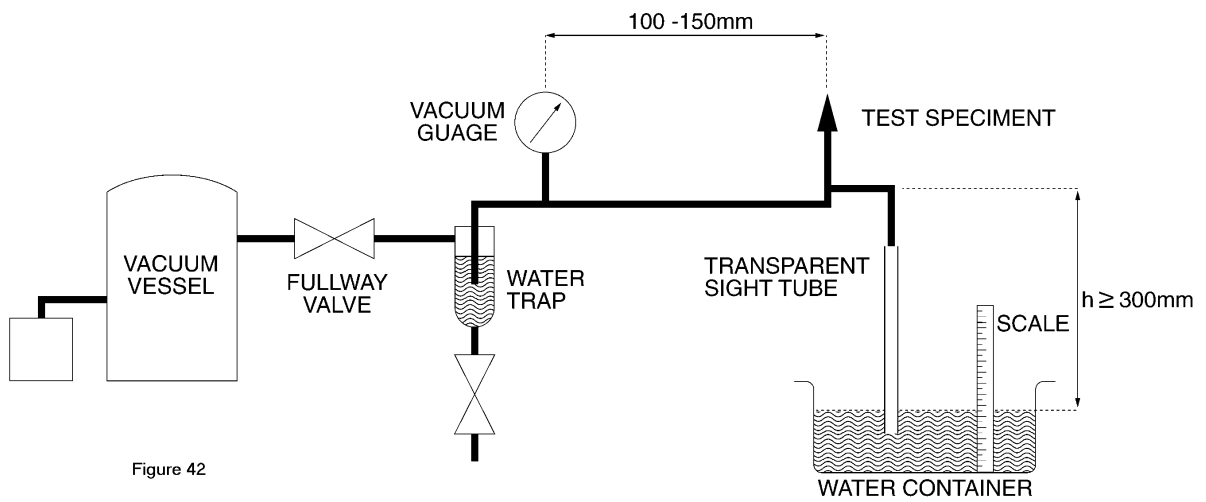

Figure 42
APPARATUS The following apparatus is required. (Reference Figure 42).
- (1) Remove all movable parts of the anti-vacuum valve.
- (2) Fit a throttle to the inlet of the valve with a diameter in accordance with Table 42.
- (3) Install the valve in the test rig shown in Figure 42.
- (4) Open the full-way valve within 1 second so that an absolute pressure of below 50 KPa (0.5 bar) is applied to the anti-vacuum valve for a time of least 5 seconds.